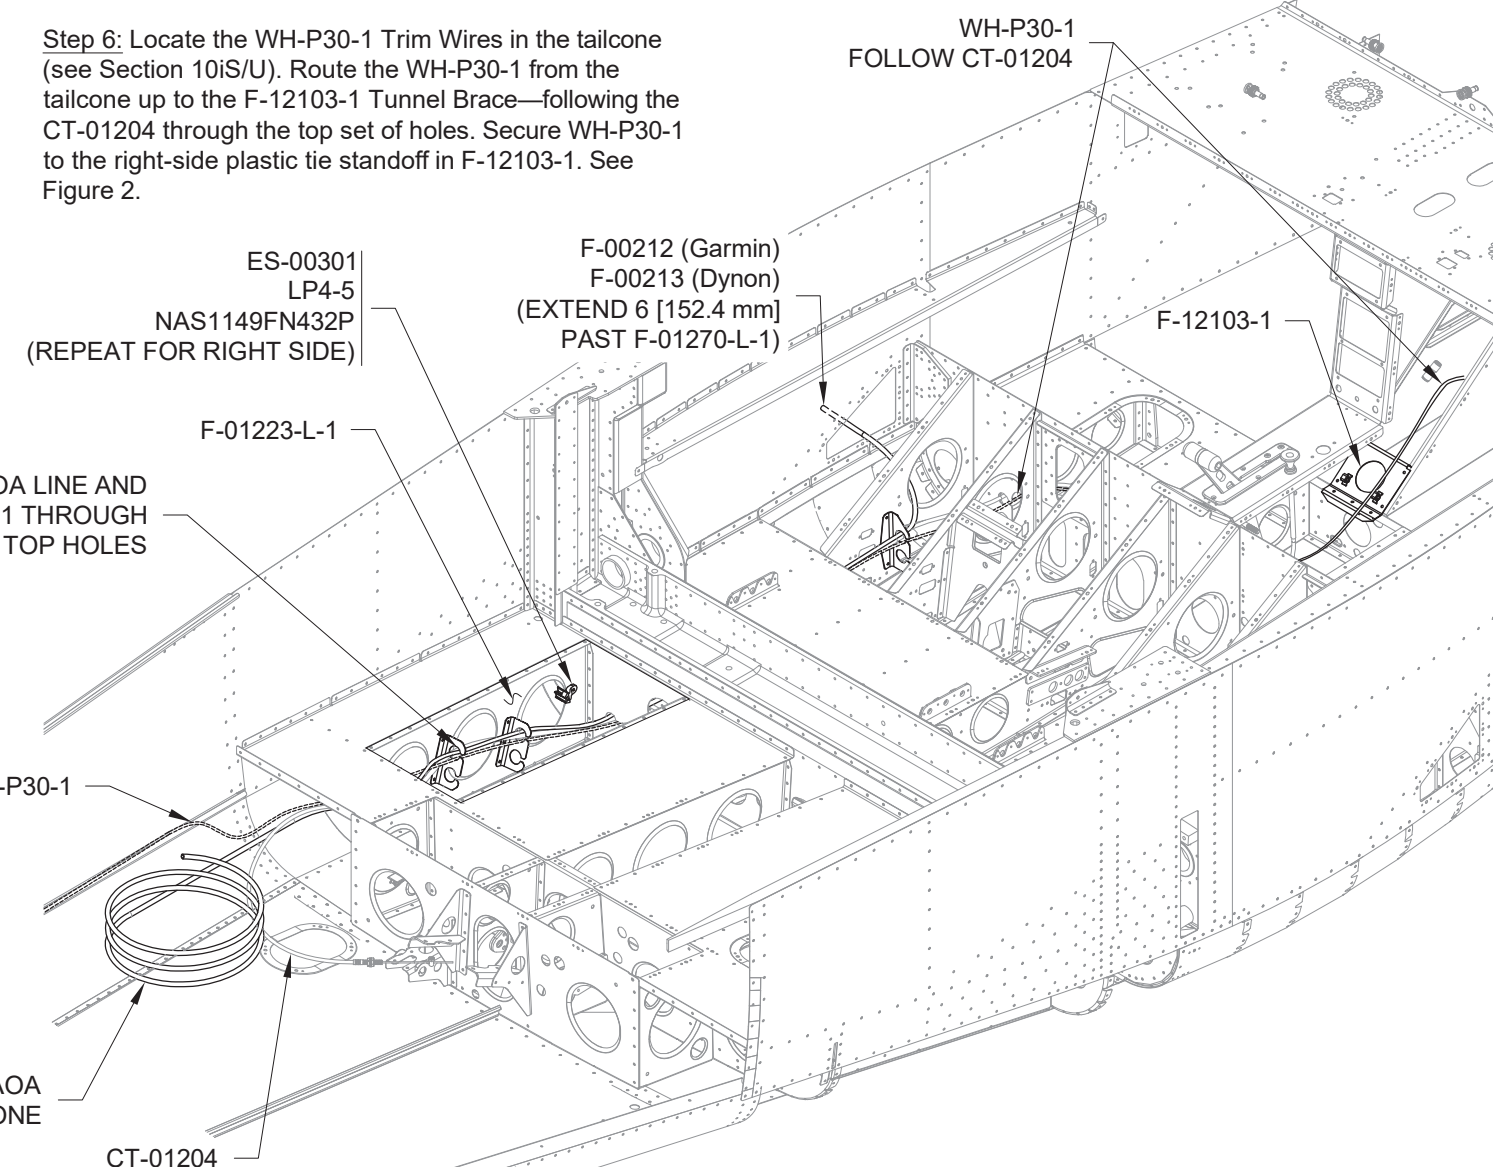

FIGURE 2: INSTALLING AOA LINE AND TRIM WIRE
Step 5: Rivet the ES-00301 onto the F-01223-L-1 Baggage Rib as shown in Figure 2. Repeat for the right side of the aircraft.
Step 6: Locate the WH-P30-1 Trim Wires in the tailcone (see Section 10iS/U). Route the WH-P30-1 from the tailcone up to the F-12103-1 Tunnel Brace—following the CT-01204 through the top set of holes. Secure WH-P30-1 to the right-side plastic tie standoff in F-12103-1. See Figure 2.